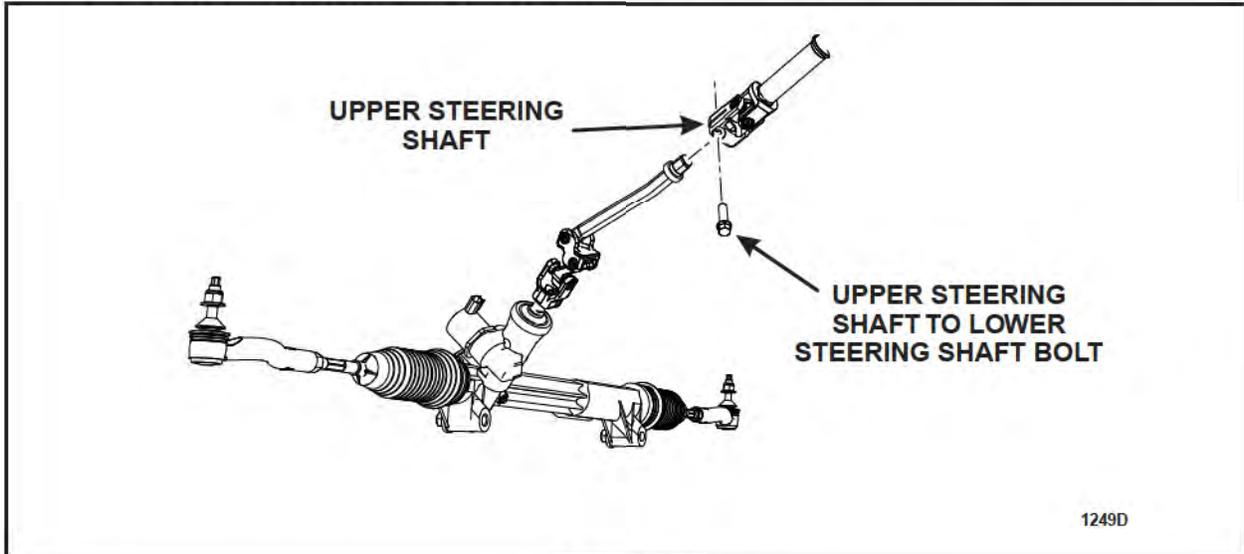

FIGURE 3
4. If not done previously, remove and discard the upper steering shaft to lower steering shaft bolt and remove the upper steering shaft. See Figure 3.
See Figure 3.